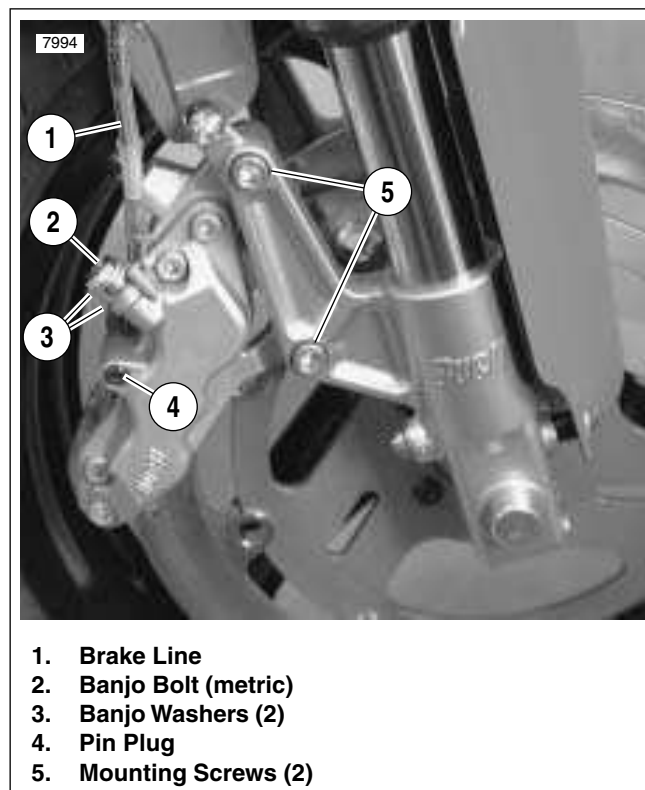
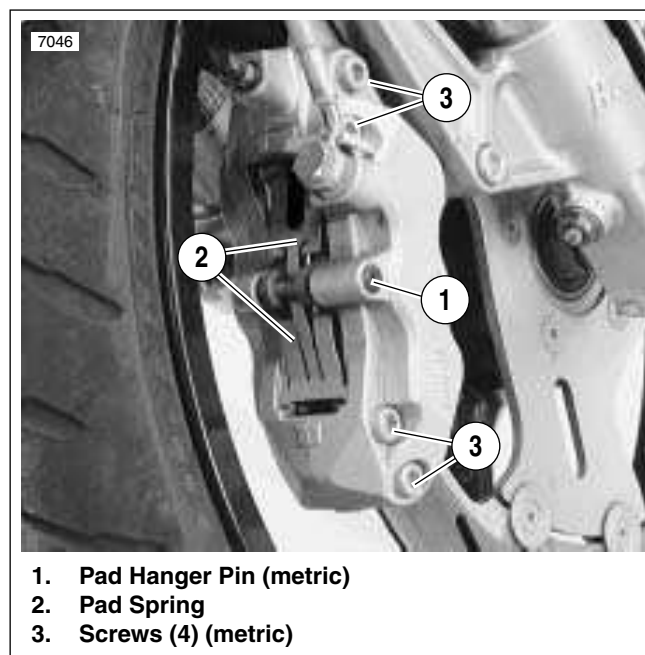

Figure 2-29. Front Brake Caliper Mounts
Figure 2-30. Pad Spring (Typical)
2. See Figure 2-29. Remove banjo bolt (2) (metric) and two banjo washers (3) to disconnect brake line (1) from caliper. Discard banjo washers.
- a. Remove pin plug (4).
- b. See Figure 2-30. Remove pad hanger pin (1) (metric).
- c. Remove pad spring (2).
4. See Figure 2-29. Detach caliper from mounts.
- a. Remove both mounting screws (5) while supporting caliper above brake rotor.
1. See Figure 2-30. Remove four screws (3) (metric) to separate caliper halves.
2. See Figure 2-29. Apply LOCTITE THREADLOCKER 272 (red) to both caliper mounting screws (5). Install and tighten screws to 22-25 ft-lbs (30-34 Nm).
- b. See Figure 2-30. Install pad spring (2) with opening at top as shown.
- c. Install pad hanger pin (1) (metric). Tighten to 11-14.5 ft-lbs (15-20 Nm).
- d. See Figure 2-29. Install pin plug (4). Tighten to 1.5-2.1 ft-lbs (2-3 Nm).